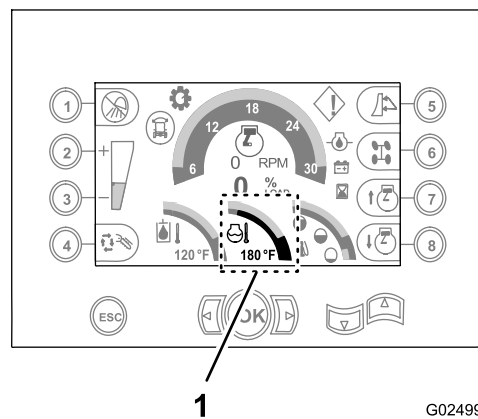

Figure 103
- C. Operate the engine for 5 minutes or until the coolant temperature in the command-center display indicates 82°C (180°F), then stop the engine (Figure 103).